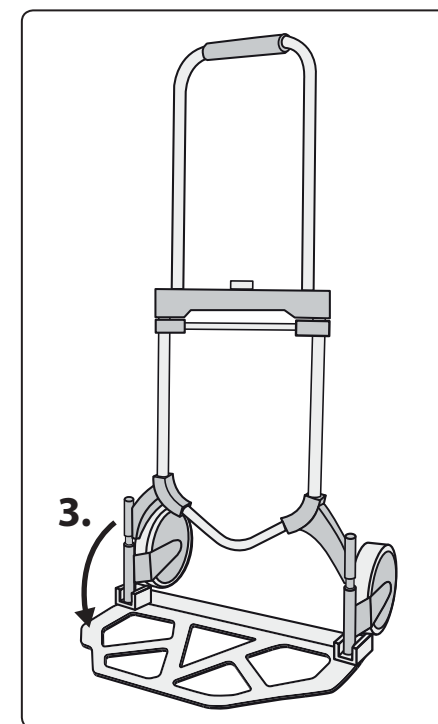

Fig. 1
- Fold out the load platform fully (fig. 1, position 4).
- Press the handle safety clip (fig. 1, position 5) and pull out the handle (fig. 1, position 1).